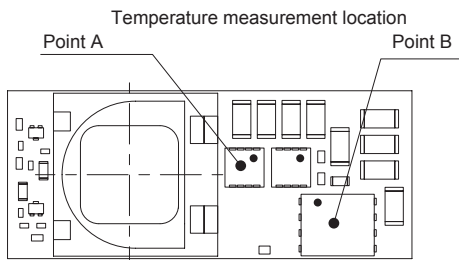
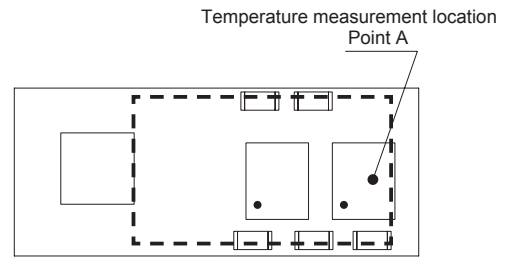

Fig.8.1 Temperature measurement location (BRFS30)
Fig.8.2 Temperature measurement location (BRFS40 · BRDS40)
- Make sure the temperatures measurement locations shown from Fig.8.1 to Fig.8.2 below are on or under the derating curve in “Derating”.